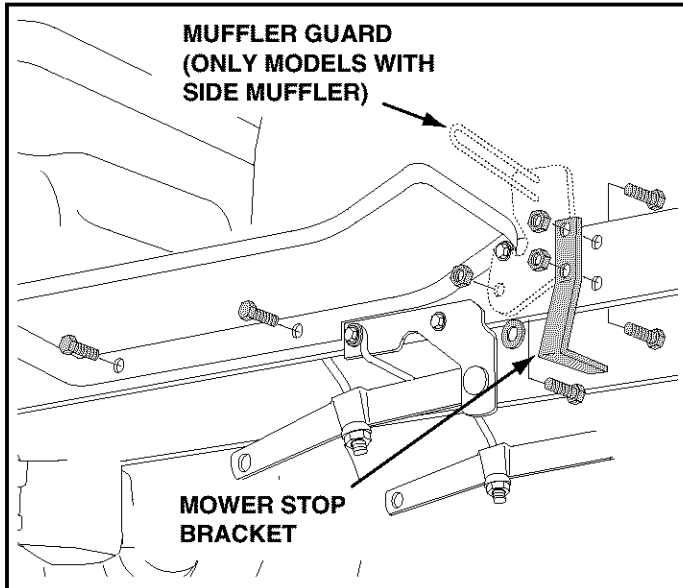

FIGURE 3 **RIGHT SIDE VIEW**
- Remove the mower stop bracket and its two bolts and nuts from the R.H. side of the tractor frame as shown in figure 3.
- If the tractor has a muffler guard at the front of the R.H. foot rest, remove the bottom bolt and nut, and the washer which is located between the guard and the tractor frame. See figure 3.
- Remove the two bolts from the bottom of both the R.H. and L.H. foot rests. See figure 3.